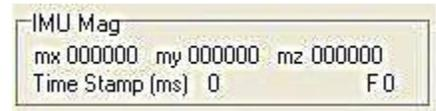

Figure 13. IMU Mag Section
5.3 IMU Mag - The IMU Mag section displays the three axis of the magnetometer. This is the same data displayed in the IMU Data section (Figure 13). The message ID for the IMU_MAG message is "3."